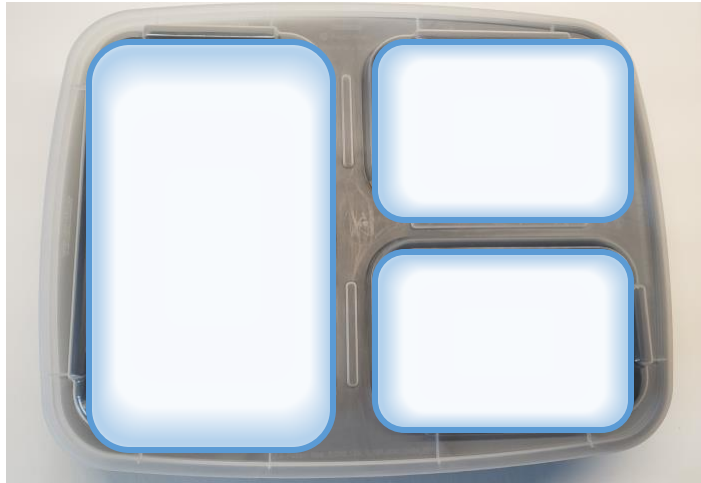

Figure 24: Place the lid so that the compartments are covered properly, and wires and devices cannot migrate between compartments.
- Place your battery in its own compartment to limit the possibility of accidental shorts. See Figure 24. A short-circuited battery can easily overheat and possibly ignite!
- Put the lid on correctly so that wires and other devices cannot migrate into the battery compartment. (Figure 24)